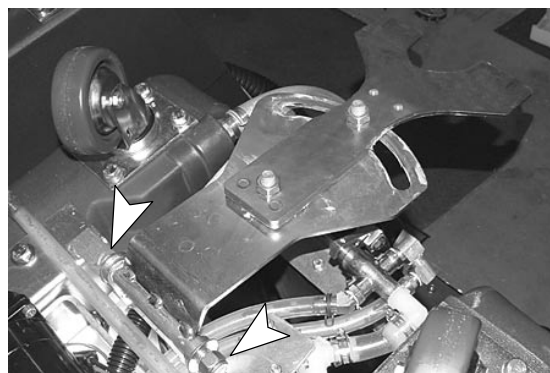

Fig. 7
3. Mount the new squeegee mount bracket assembly as shown (Figure 7).